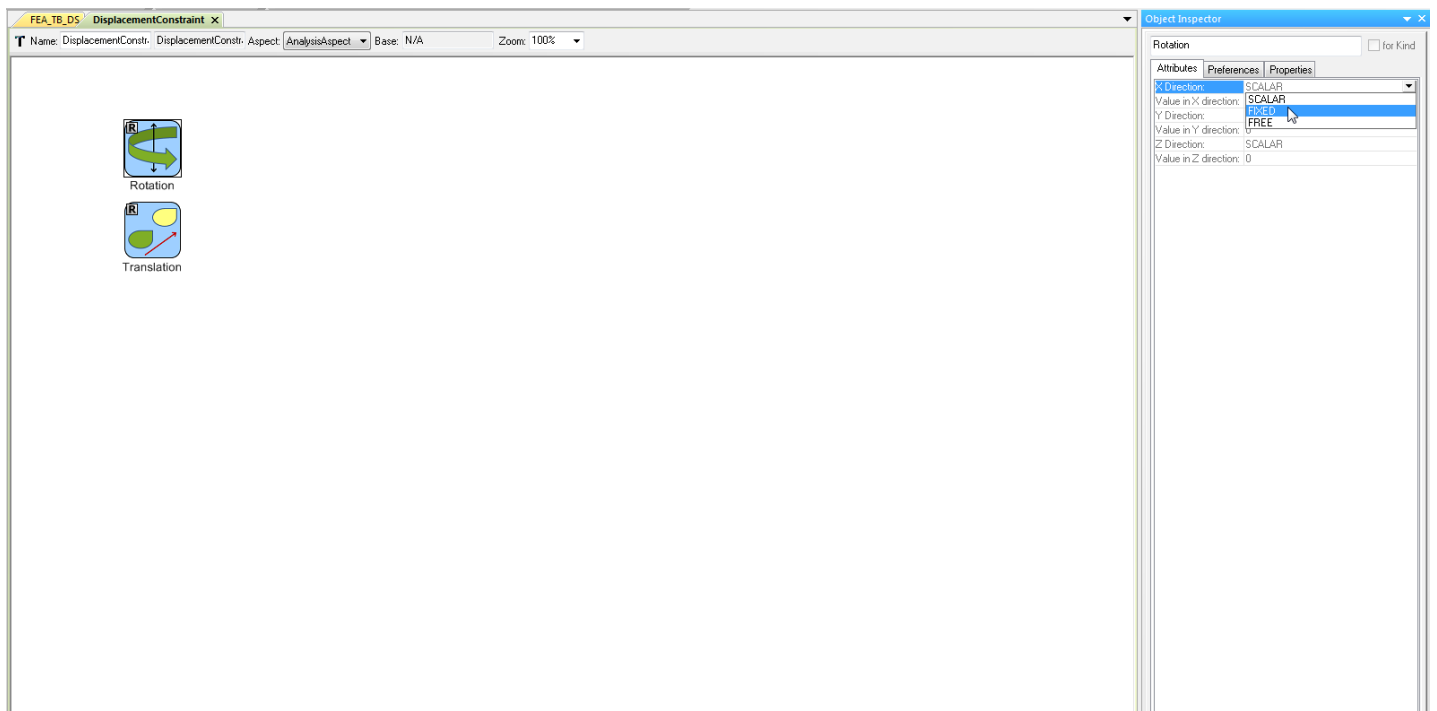

Figure 29
1. Right-click on translation or rotation and pick Attributes to define the displacement and translation conditions in each direction (x, y, z). Pick FIXED for every direction for both Translation and Rotation. (Fig. 29)